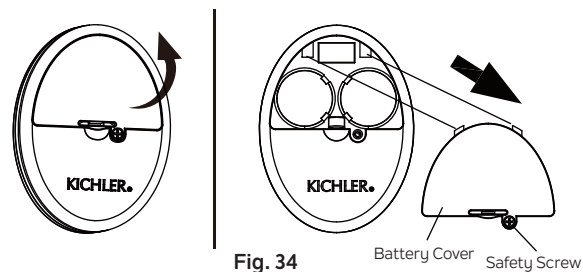

Fig. 34
Step 1. To remove or replace the batteries, loosen the safety screw and remove the battery cover from the back of the transmitter to access the battery compartment. (Fig. 34)
Step 1. Loosen the safety screw and remove the battery cover from the back of the transmitter to access the "LEARN" button. (Fig. 34)
Step 1. Loosen the safety screw and remove the battery cover from the back of the transmitter to access the "**LEARN**" button. **(Fig. 34)**